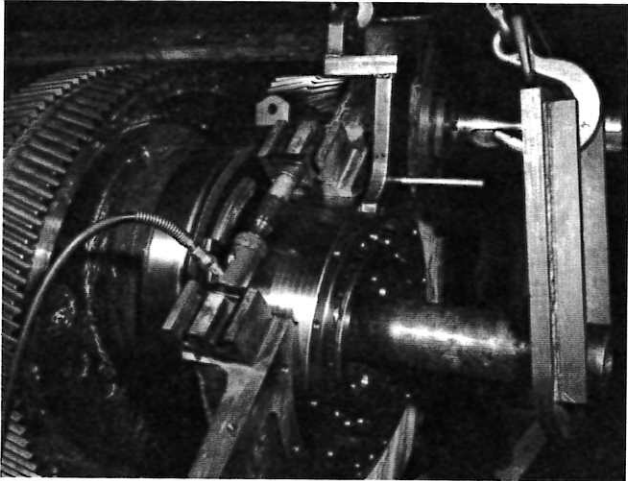

FIGURE 14 – ECCENTRIC GEAR ASSEMBLY SUPPORT
6. Spread frame slot approximately 1/64" (.4 mm) by means of hydraulic or screw jacks (FIGURE 14, page 19). **Be sure to protect faces of frame slots against damage from jacks. This is important.**
7. Support eccentric and gear assembly in original position by means of a sling, hoist or blocks (FIGURE 14, page 19).
15. Rotate bearing cartridges in frame so holes for bearing end plate cap screws line up. The lifting device shown in FIGURE 14 and FIGURE 15, page 19, will automatically align holes.